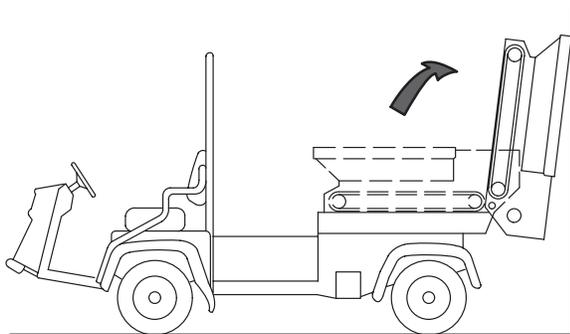

Figure 30
- Pivot hopper rearward and lean against wall, ladder, etc. Do not allow hopper to rest against rear of machine as damage may result to brush or hydraulic couplers (Fig. 30).
Important Make sure hopper is pivoted beyond center and/or secured to wall or post to prevent it from accidentally falling on work area (Fig. 30).